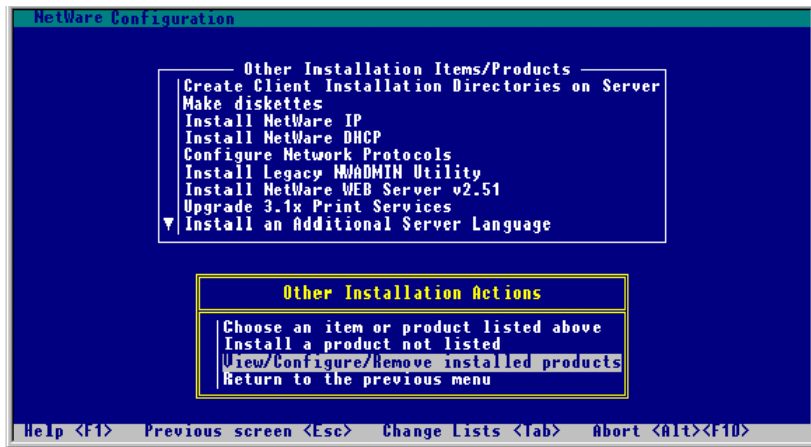

Figure 3-27. Install Products Screen
8. Press the **ENTER** key to return to the Install Products screen (Figure 3-27). You may confirm the drivers are installed by highlighting **View/Configure/Remove installed products** and then press the **ENTER** key.